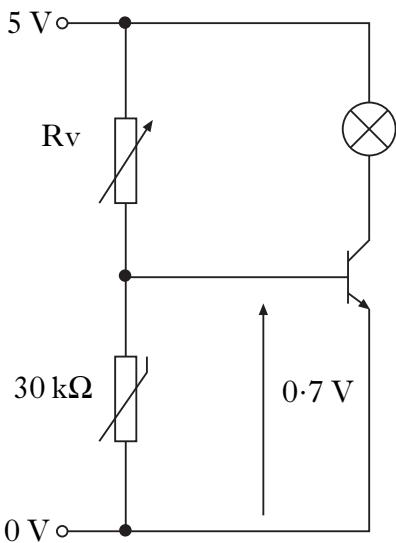

Figure Q6
6. Figure Q6 shows an electronic circuit which has been designed to turn on a warning lamp when the temperature drops below  $0^{\circ}\text{C}$ .
Calculate, for the conditions shown in Figure Q6: